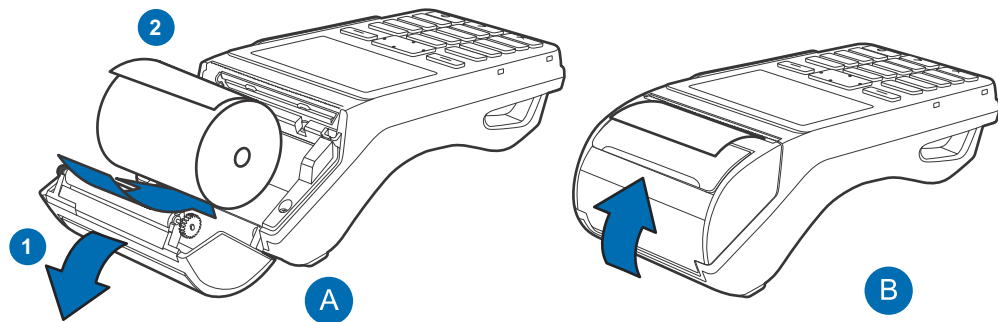

Figure 10 Loading Printer Paper
- 5 Load the paper roll as shown in Figure 10, with the edge of the paper on the top of the roll.